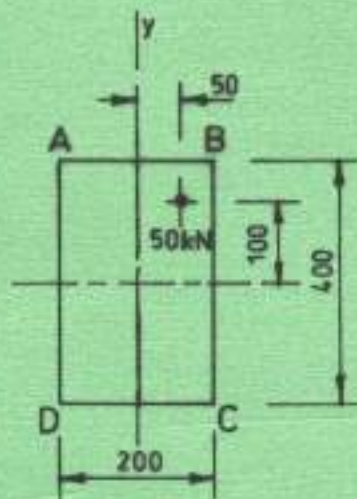

Fig. 3
2. (a) A rectangular column of cross section 400×200 mm carries an eccentric load of 50 kN as shown in **figure 3**. Calculate the stresses at corners B and D. (10 marks)